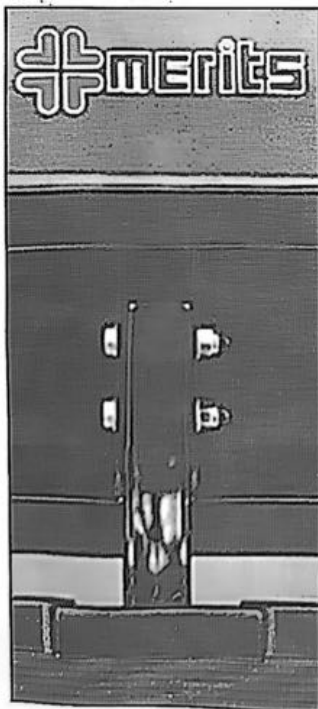

FIG. 11
1. Using a 10 mm hex wrench, remove the bolts and nuts. (FIG. 11)
3. Replace the bolts and nuts and be sure to tighten them. (FIG. 11)